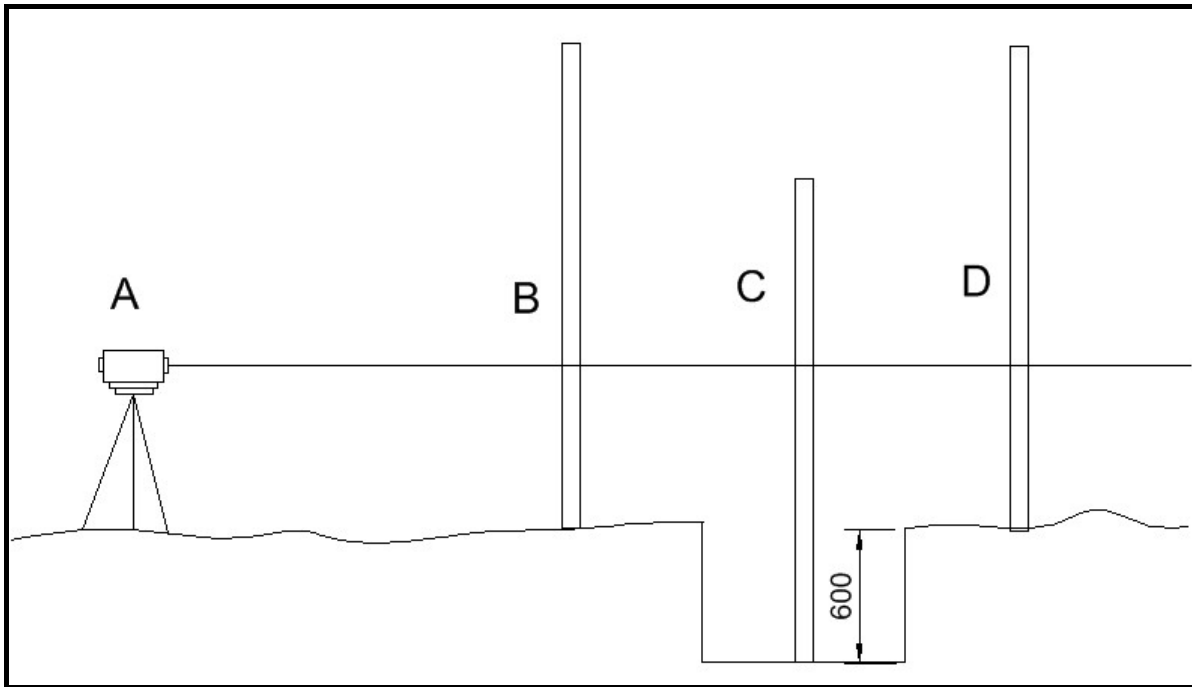

Figure 2.4
2.4 FIGURE 2.4 shows a dumpy level on a site with different readings taken at specific points. Using the datum level reading given as **3,355** at A, answer the following questions: